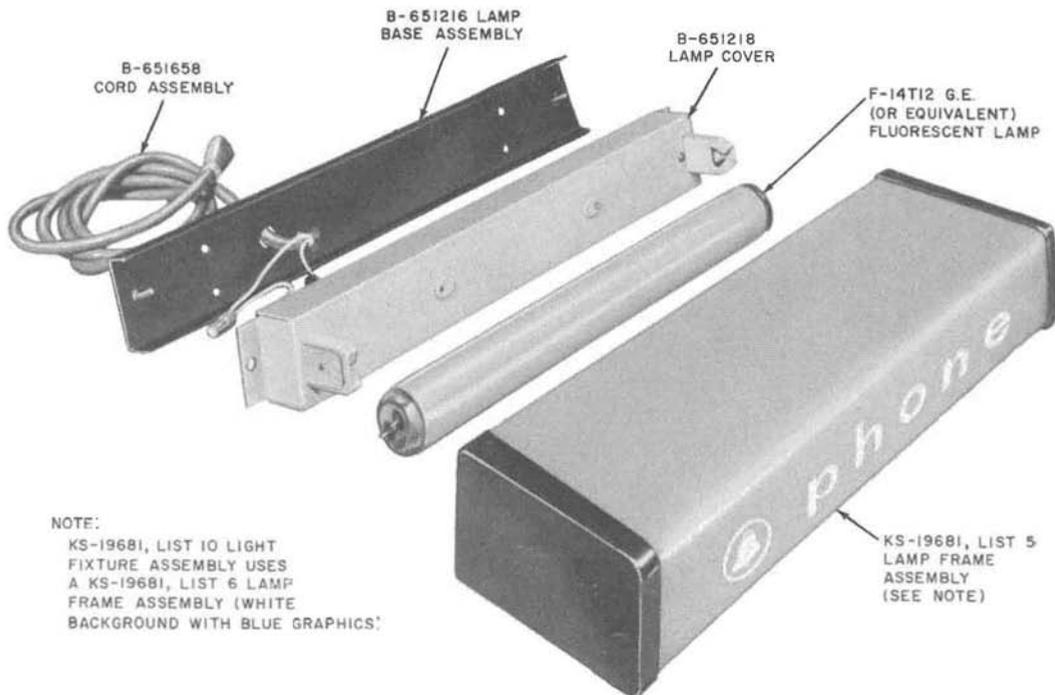

Fig. 6—KS-19681, List 9 Light Fixture Assembly
- (1) Remove tamper resistant screw at top center of shelf using a KS-19192, List 1 wrench.
- (2) Remove sign to the left and pull away from shelf.
- (3) Install new sign, using reverse procedure.
- 4.06** To replace KS-19681, List 9 or List 10 sign (Fig. 6) with same type sign:
- (1) Remove sign as in 4.05 (1) and (2).
- (2) Insert four plasti-grommet inserts (Fastex Div. of Ill. Tool Works No. 242-180602-90-0101;) (furnished with light fixture) in the four mounting holes.
- (3) Disassemble the sign to make wiring accessible (Fig. 6).
- (4) Remove wire nuts and disconnect lamp cord from ballast and lamp holder.
- (5) Run a fish tape through entrance hole in rear of shelf and down wire channel until it is accessible at bottom of shelf.
- (6) Tie lamp cord to fish tape and pull it up into position.
- (7) Install base assembly on shelf using the four No. 8 by 3/4 Phillips head self-tapping screws furnished with light fixture.
- (8) Reconnect lamp cord to ballast and lamp holder.
- (9) Install cover on base assembly.
- (10) Install fluorescent lamp (G.E. No. F14T12 or equivalent).
- (11) Install frame and diffuser and secure them with the four No. 8-32 by 1/2 stainless steel screws.
- (12) Plug lamp cord into wall socket.